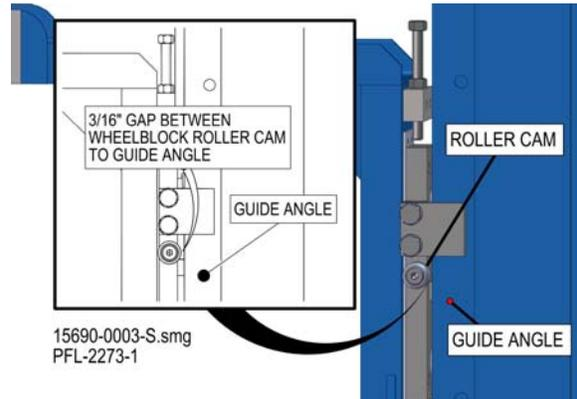

Figure 17
21. Plumb near side beams in both directions. You must maintain a 3/16" clearance between the wheelblock guide roller and the guide angle on the main beams. The guide angle-to-guide angle measurement should be given on the GA drawing. This dimension should be held between the guide angles on the near side and far side beams. See Figure 17.